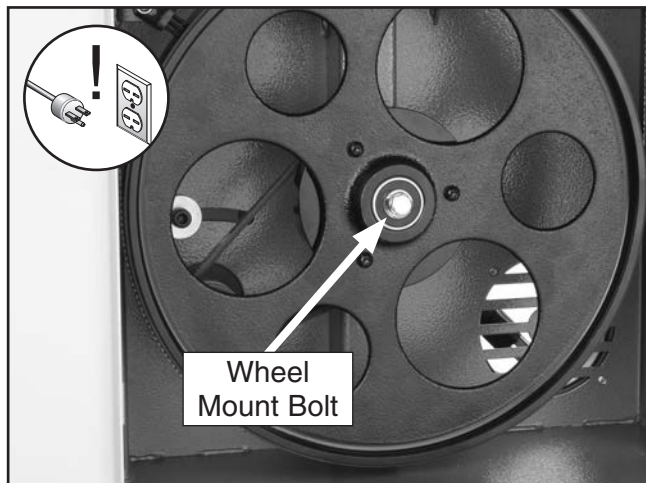

Figure 58. Wheel mount bolt.
3. Unthread the wheel mount bolt shown in **Figure 58** and slide the lower wheel off of the bearing shaft.